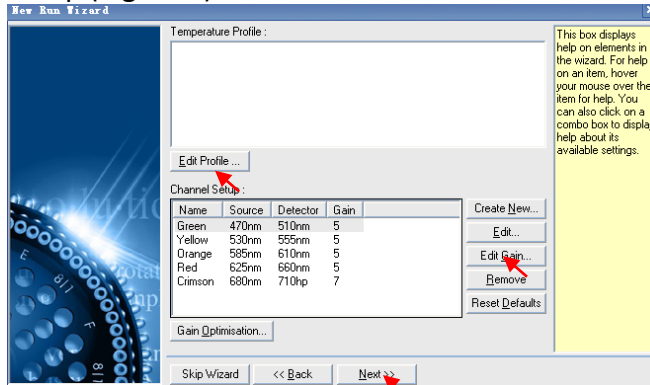
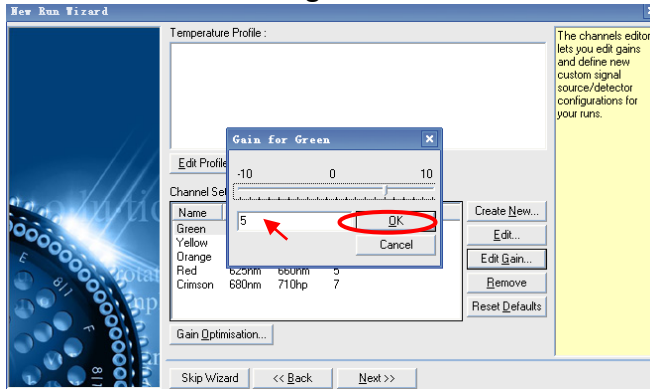

Figure 4
Figure 5
4. Click on “Edit Gain” to modify the gain values of the Green, Yellow, Orange and Red channels (Figure 4). Gain value 5 is recommended for each channel. Click on “OK” to complete the gain set-up (Figure 5).
5. Choose “Edit Profile” as shown in Figure 4. Click on “Insert after” to insert the three thermal stages: “Hold”, “Cycling” and “Cycling2”.